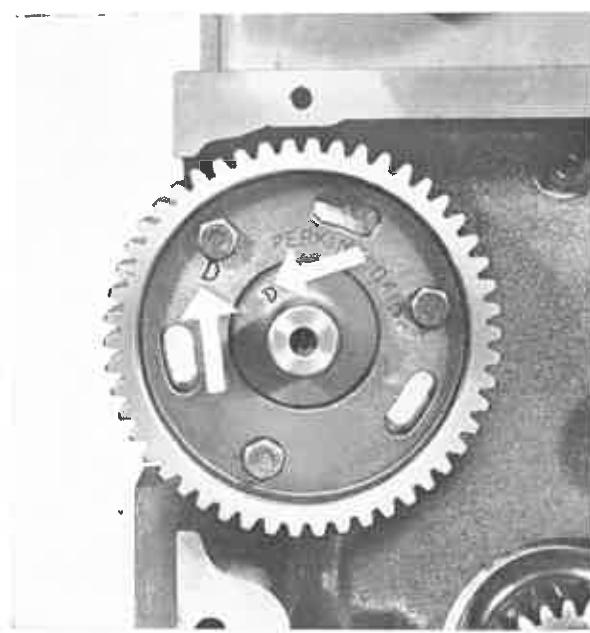

Fig. N.2.
Place the gear on the hub with these two holes marked "D" in line (See Fig. N.2).
4. On the hub of the camshaft will be seen the letter "D" adjacent a fixing hole, and on the camshaft gear another letter "D" will be seen stamped adjacent a fixing hole. Ensure these letters "D" coincide when offering the camshaft gear to the camshaft hub (See Fig. N.2).